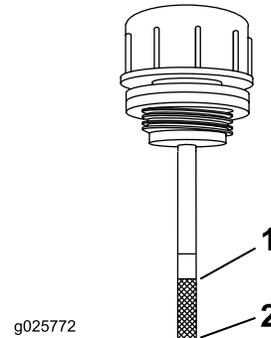

Figure 68
9. Remove the dipstick and look at the end (Figure 68). If the fluid level is at the Add mark, slowly pour only enough fluid into the hydraulic reservoir to raise the level to the full line.